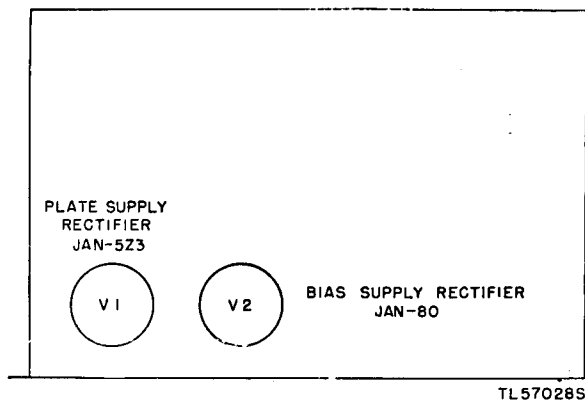

Figure 14. Power supply unit, tube location.
(2) *Power supply unit.* Take the dust cover off the power supply unit and remove the cardboard jackets from the two rectifier tubes. Figure 14 shows the location of these tubes.